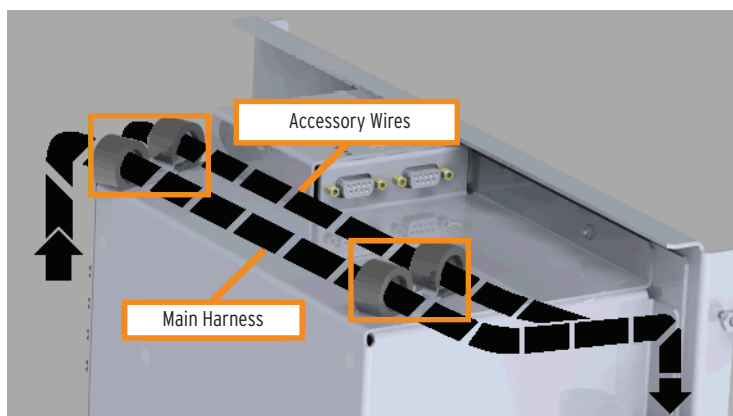

Figure 15 Secure Wires on Top of Control Module
Step 25. Use the existing nuts to secure the wires to the top of the control module with the two accessory wire clamps (if they are not already installed). See *Figure 15*.